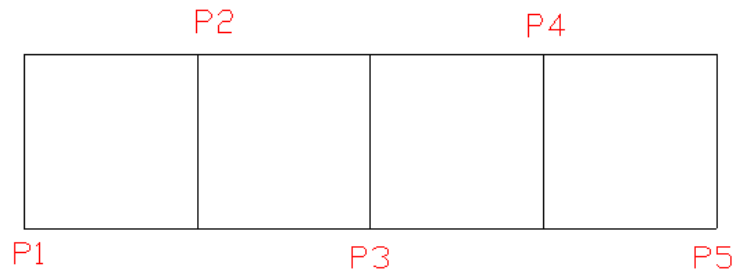

Fig. 4-12
(1) There are 5 points on plane. Refer to the Fig. 4-12: